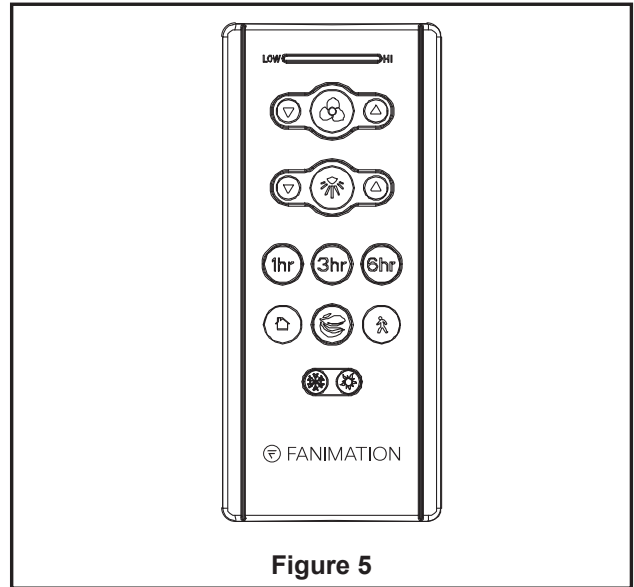

Figure 5
4. After connections have been made, slide the receiver into the hanger bracket, taking care not to pinch the wires and put the white and green leads to one side and the black leads towards the other side. The wires should be spread apart with the grounded conductor and the equipment-grounding conductor on one side of the outlet box and the ungrounded conductor on the other side. (Figure 5)
5. Assemble the LED assembly to the light plate assembly using the two key slots. Replace the removed screw in Step 2 and secure all three screws. (Figure 5)
5. Remote functions: (Figure 5)